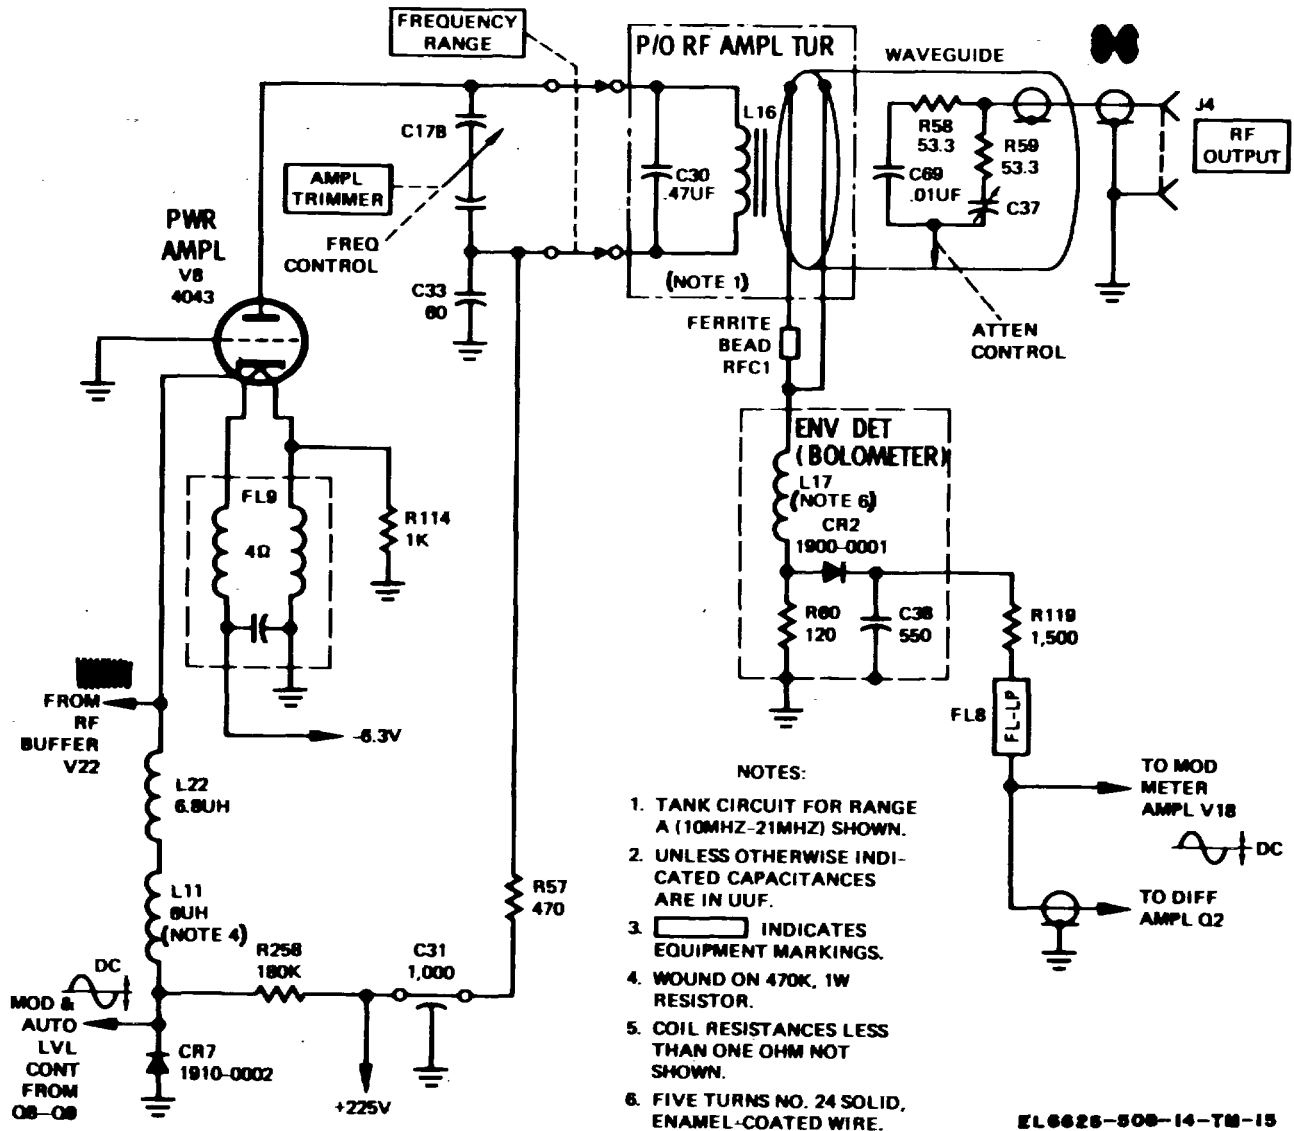

Figure 5-6. Rf power amplifier, output attenuator, and envelope detector, schematic diagram.
b. The tank circuit consists of split-stator capacitor C17A, which is controlled by coarse frequency and AMPL TRIMMER controls, and five turret-mounted rf transformers. C17A is ganged to C17B in the output of power amplifier tube V8, shown in figure 5-6. The turret-mounted rf transformers are mechanically linked to rf coils which are mounted on another turret located in the power amplifier section. This linkage insures that frequency range selection and frequency tuning in both the rf oscillator and the power amplifier properly track each other. Fine frequency adjustments are made with FINE FREQ capacitors C68.
a. V8 (fig. 5-6) is a grounded-grid rf power amplifier that modulates the rf oscillator signal at coil L16.
c. Capacitor C17B, shown in figure 5-6, is ganged to the rf oscillator tuning capacitor, and tuned by rotation of the front panel coarse frequency control and AMPL TRIMMER control knobs. The AMPL TRIMMER provides fine tuning for the rf power amplifier so that it will correctly track the rf oscillator.